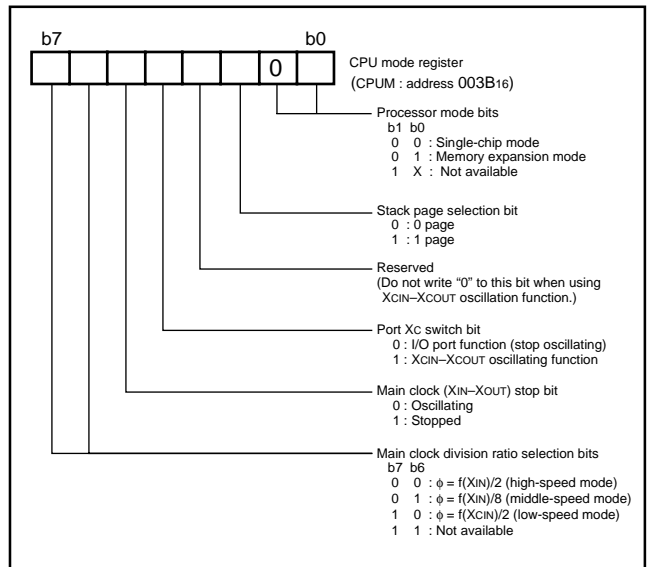

Fig. 101 Structure of CPU mode register in CPU rewriting mode
Figure 101 shows the structure of the CPU mode register in the CPU reprogramming mode. Set bit 1 to "0" (single-chip or memory expansion mode) in the CPU reprogramming mode.
- ① Apply 0 V to the CNVss/VPP pin for reset release.
- ② Set the CPU mode register (see Figure 101).
- ③ After CPU reprogramming mode control program is transferred to internal RAM, jump to this control program on RAM. (The following operations are controlled by this control program).
- ⑤ Apply VPPH to the CNVss/VPP pin.
- ⑥ The operation of the flash memory is executed by software-command-writing to the flash command register .